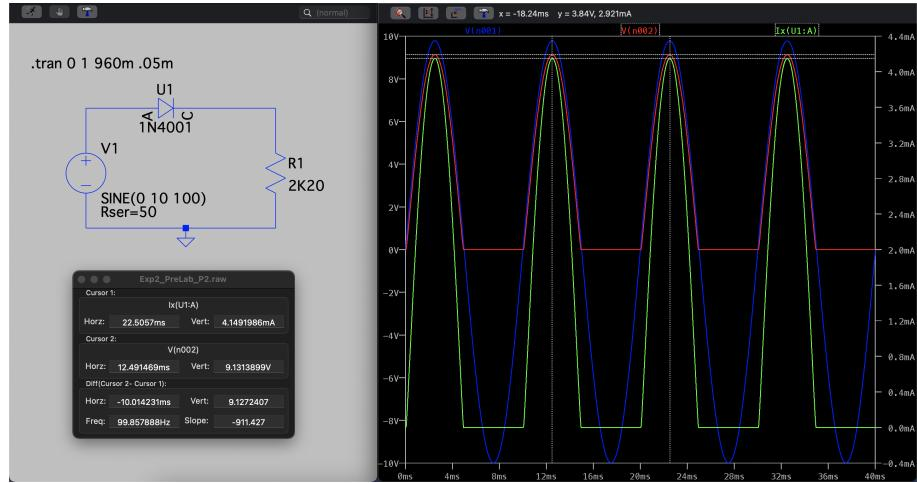

Figure 3:  $U_L$ ,  $V_{in}$ , and  $I_D$
- Figure 3 shows the circuit without  $C_1$  built in LTSpice and the plot of  $U_L$ ,  $V_{in}$ , and  $I_D$ .
- From Figure 3, peak voltage at  $R_L$  and the peak current  $I_D$  can be obtained.